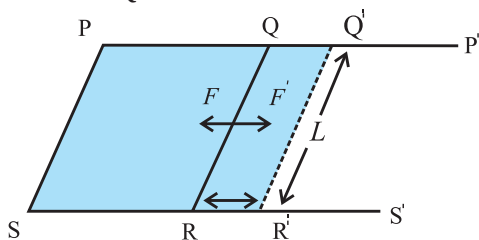

Fig. 2.17: Surface energy of a liquid
c) Relation between the surface energy and surface tension: Consider a rectangular frame of wire P'PSS'. It is fitted with a movable arm QR as shown in Fig. 2.17. This frame is dipped in a soap solution and then taken out. A film of soap solution will be formed within the boundaries PQRS of the frame.